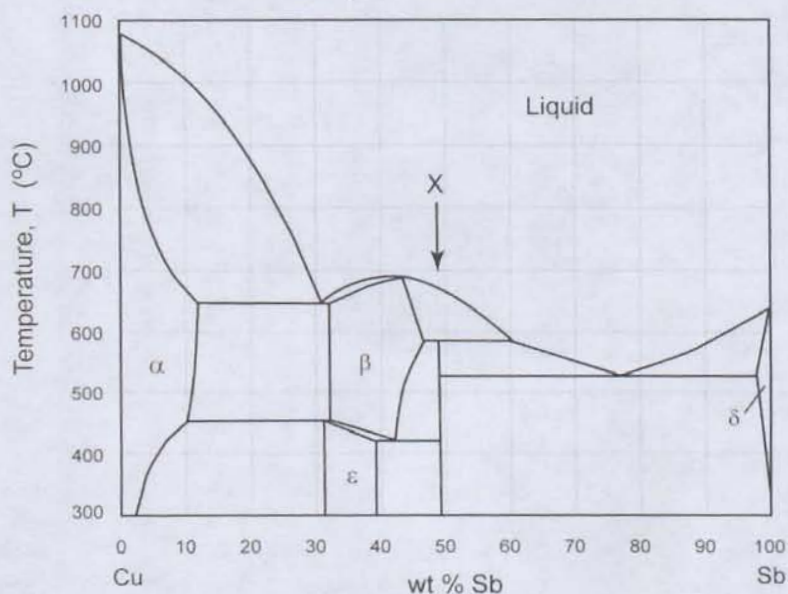

Figure 16: copper-antimony Cu-Sb phase diagram
- \* 25. Figure 16 shows the copper-antimony Cu-Sb phase diagram.